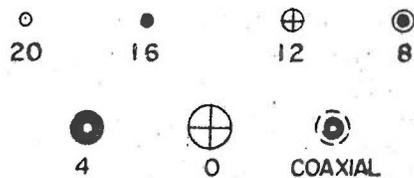

Figure 5-23. "AN" Insert Contact Arrangements - 1 Contact
(1) INSERTS AVAILABLE. - First determine the number of contacts needed and find the inserts available having the necessary number of contacts. These may be found in "AN Insert Contact Arrangements", Figures 5-23 through 5-42.
(2) CURRENT RATING. - Determine the current rating required for each contact. The size of the contacts and
Notice in Figures 5-23 through 5-42 that inserts are listed by the number of contacts and, to the right of each arrangement, the number of contacts of each AWG wire size is listed. Designation of the contacts is based upon the AWG size of conductor normally used with each contact. The contacts are drawn to a code so that contact size may be determined from the layout. The following chart gives the current rating for the various contact sizes: